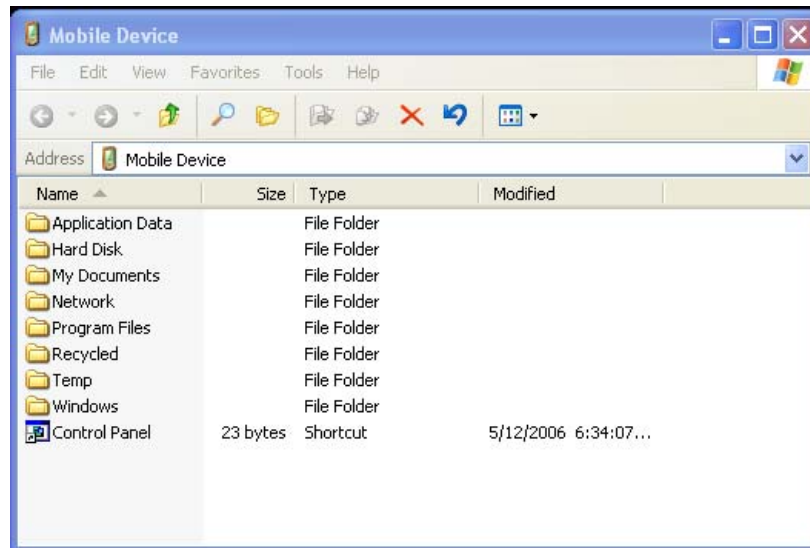

Figure 24
5. You can now browse the TREQ-M4 file system by selecting the **Explore** icon or the **Explore** option on the PC’s ActiveSync File menu (see Figure 24, “ActiveSync, Explore Device”).